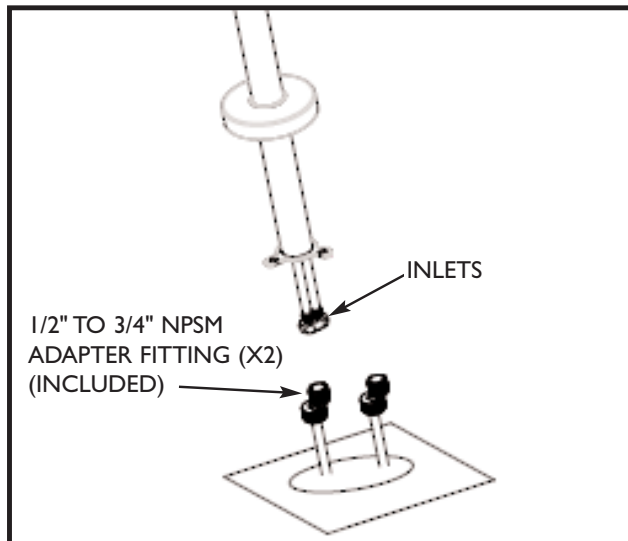

Figure 4
2. Connecting Tub Filler Inlets to Water Supply: Figure 4 illustrates the connecting of the Tub Filler INLETS to the $\frac{1}{2}$ " to $\frac{3}{4}$ " ADAPTER FITTINGS. Make sure the (hot inlet label) and cold tub filler INLETS connect to the hot and cold of the water supply set-up. The installer is responsible for ensuring a water tight seal.